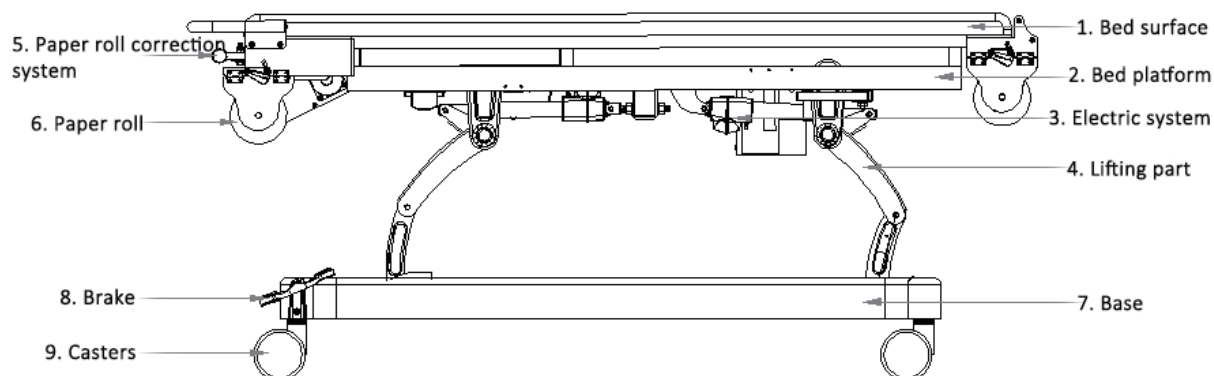

FIGURE 1: YA-EC-U02 PRODUCT DIAGRAM
- This product consists of a bed surface, a bed support platform, an electric system, a lifting part, a roll paper correction system, a roll paper, a base, a brake device, casters, etc., as shown in Figure 1.
B. INSTRUCTIONS FOR USING THE CONTROL PANEL, AS SHOWN IN FIGURE 1 & TABLE 1: